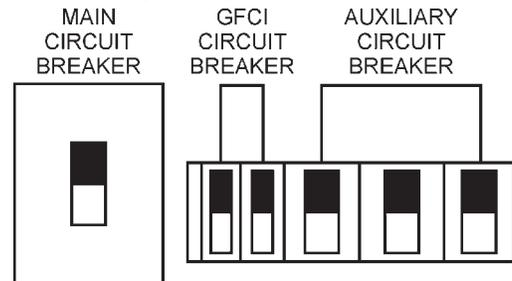

Figure 52. Main, Aux. and GFCI Circuit Breakers (ON)
11. Place the **main**, **GFCI**, and **aux.** circuit breakers in the **ON** position (Figure 52).